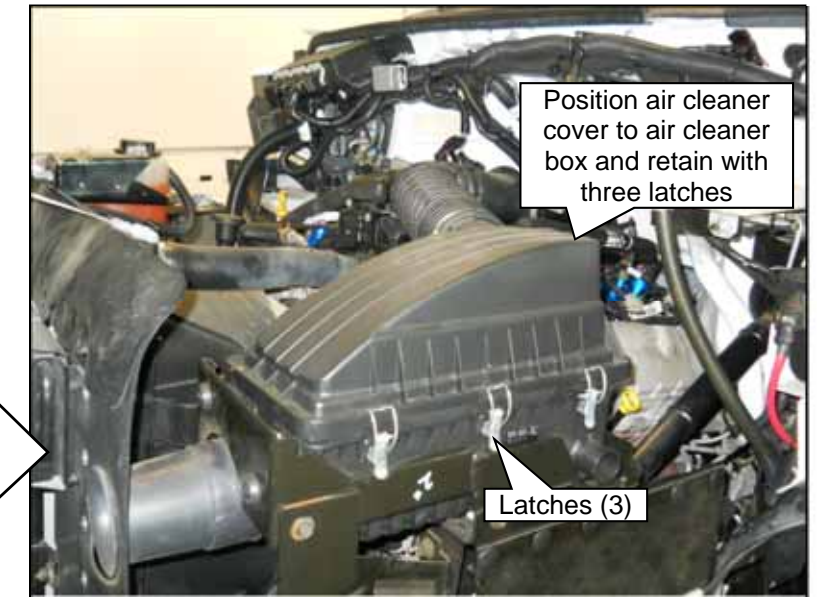

Figure 12.2
2. Install the air cleaner cover over the air cleaner and secure with the three OEM cover latches. **Figure 12.2.**